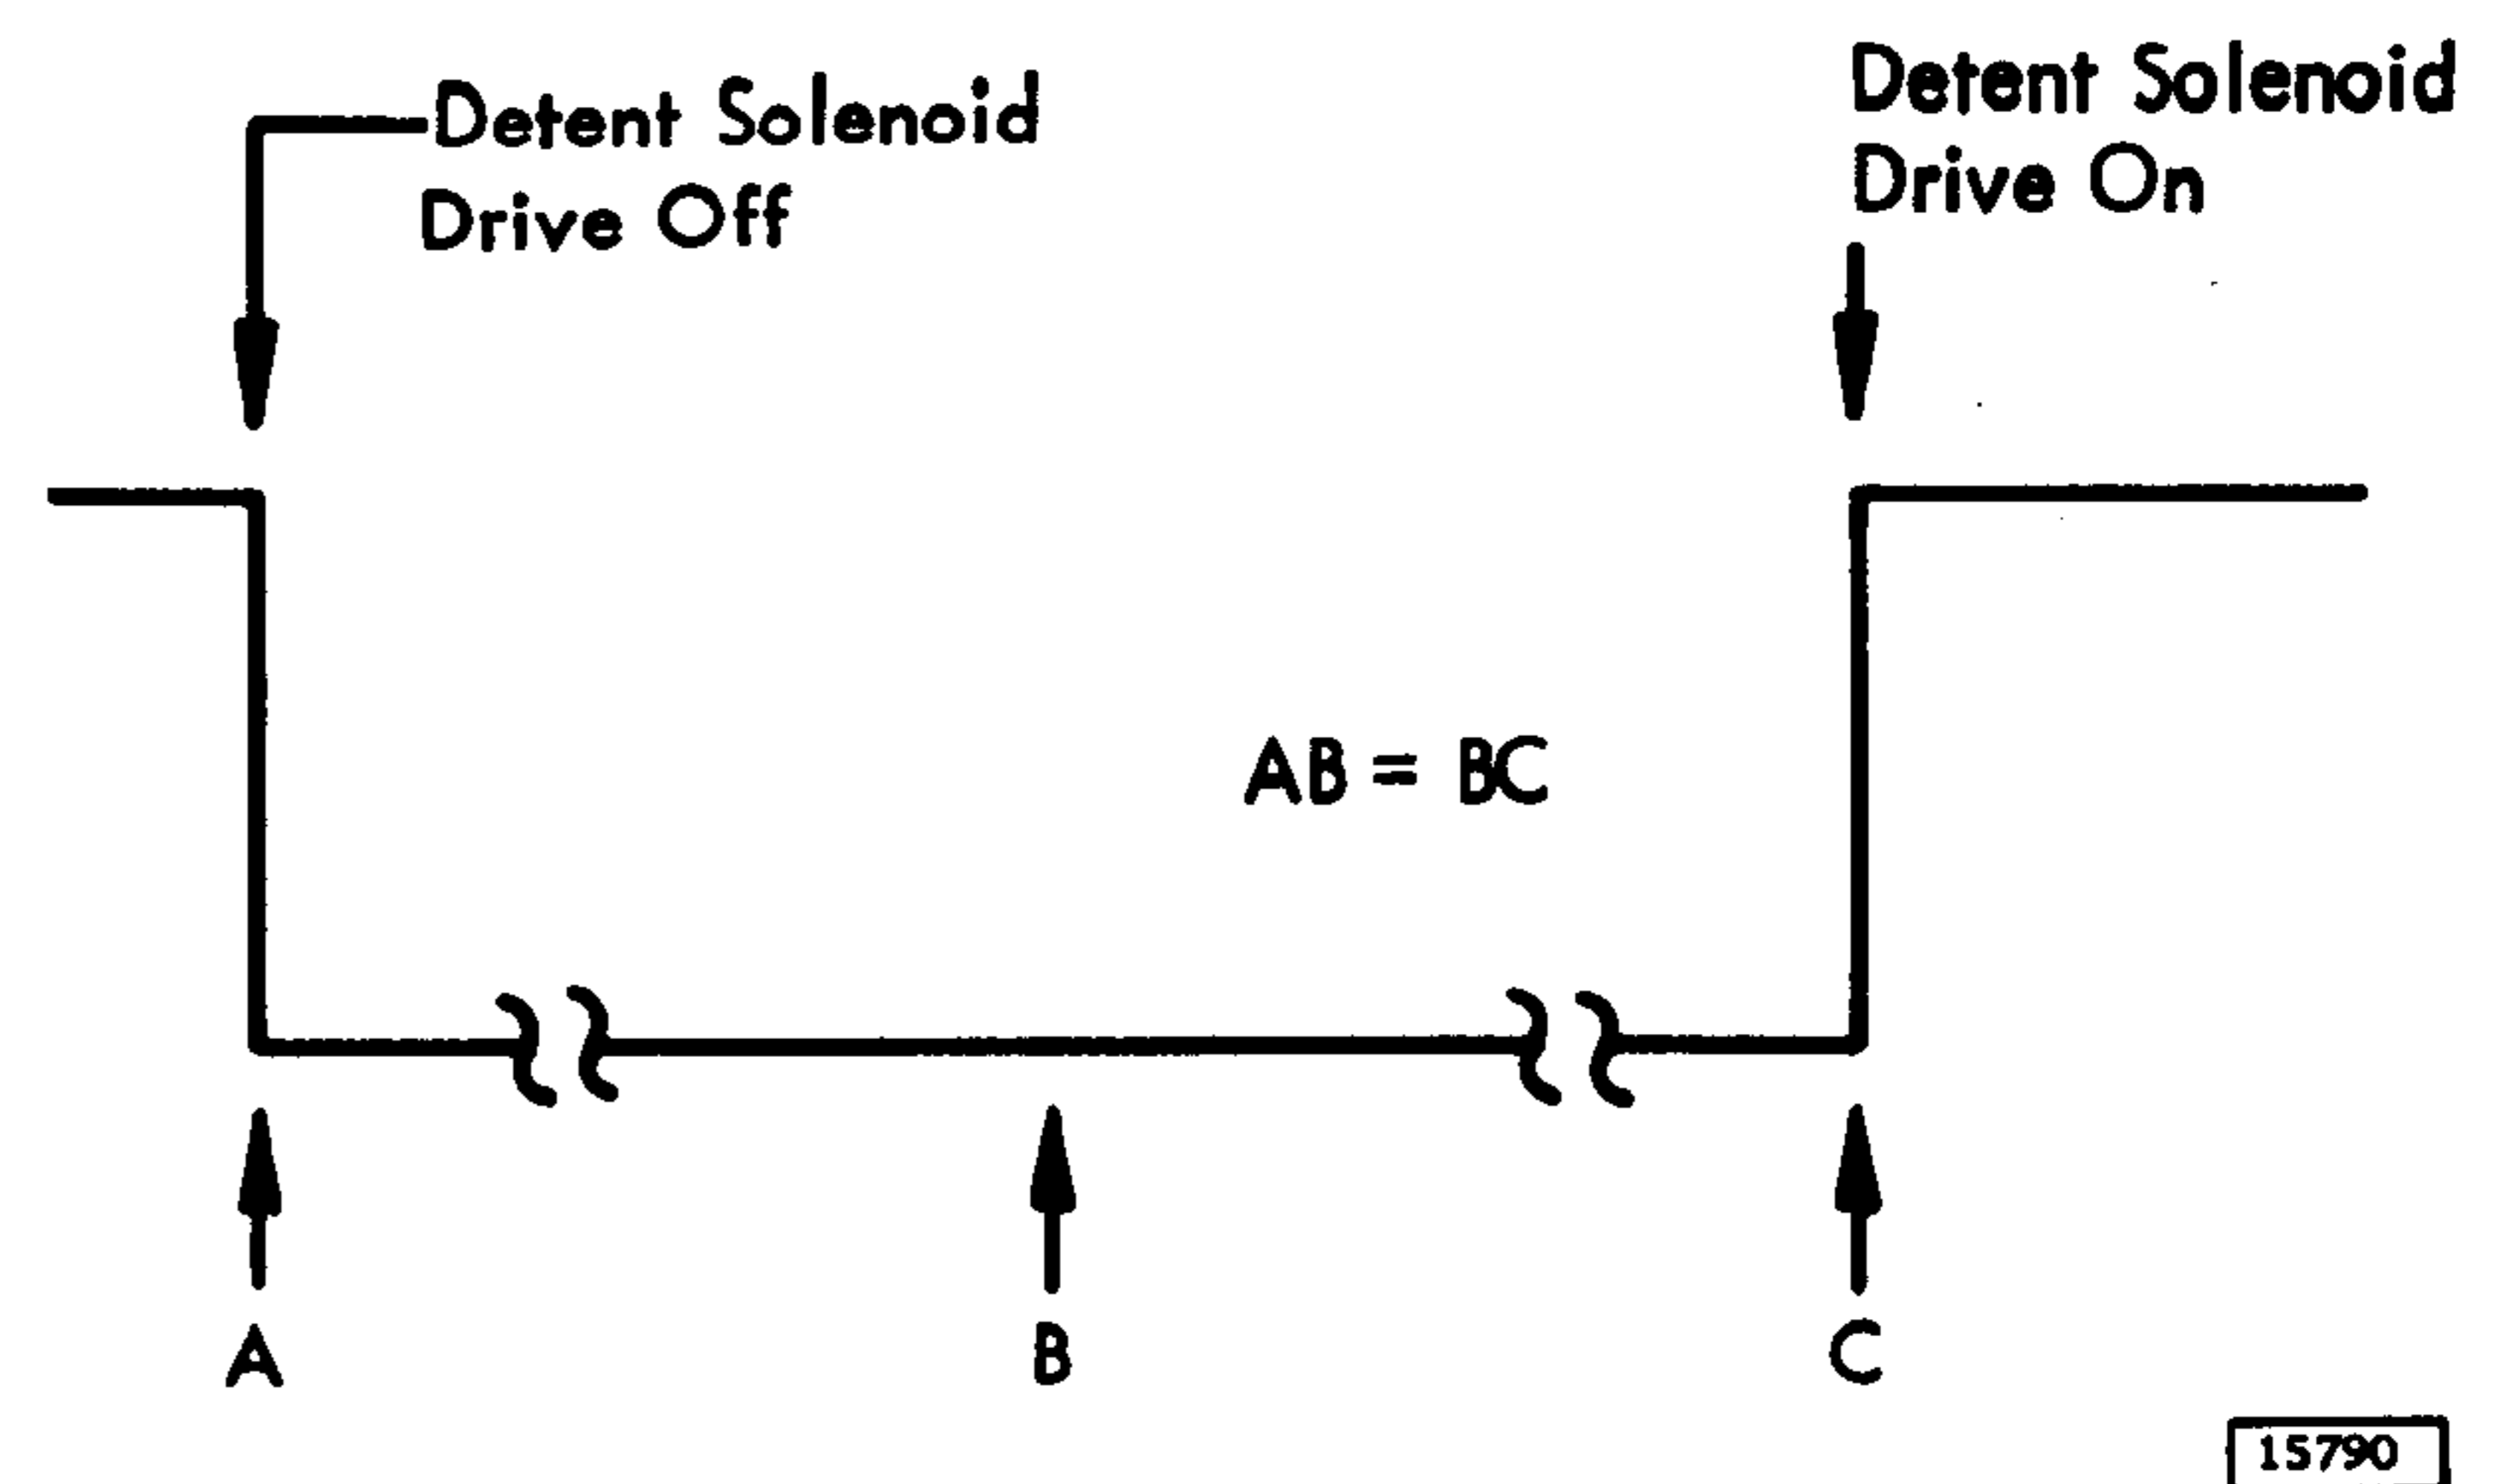

Figure 3-5. Detent Safety Check
3. Check the motion integrator (TED-at 01A5E 12). It should be adjusted to give maximum down level time (as observed at Pin F) while performing an access of 250 cylinders. This is to be measured during B-C portion of the motion cycle (See Figure 3-5).